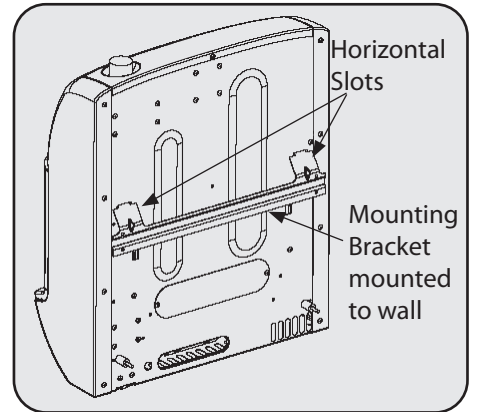

Figure 9
1. Locate two horizontal slots on back pane of heater. See Figure 9.